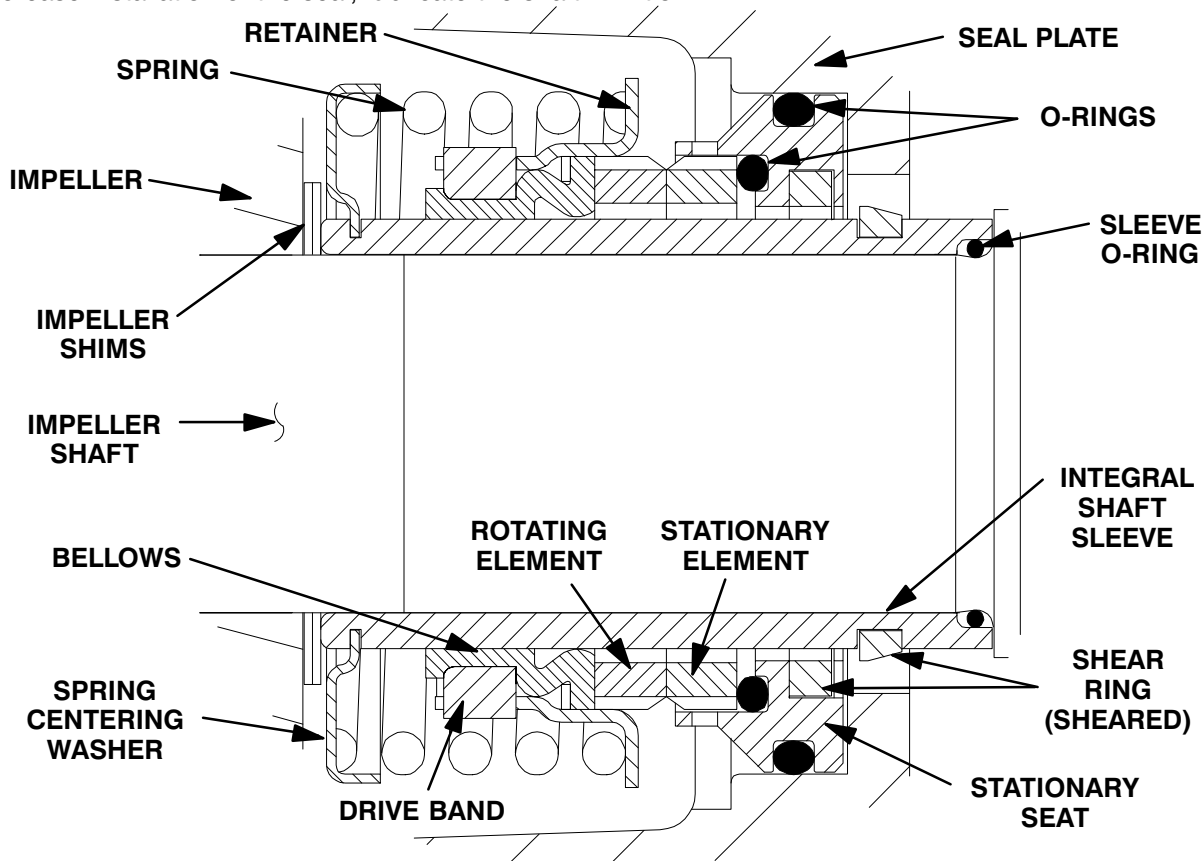

Figure 8. Cartridge Seal Assembly
sleeve O-ring (32) and the external stationary seat O-ring with a very **small** amount of “P-80® Emulsion” or water. See Figure 8 for seal part identification.